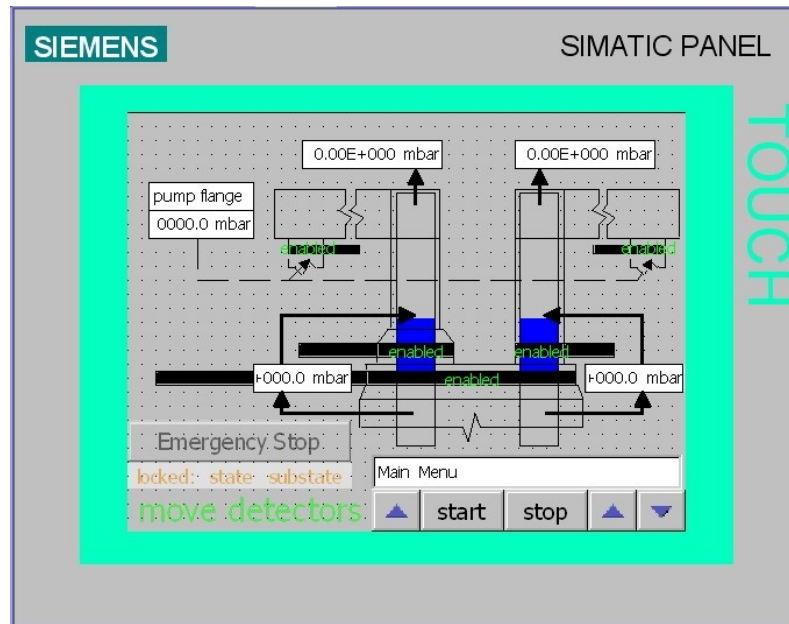

Fig 3.2 The shutter menu
There is also a 'start' button (5), a 'stop' button (6) and an 'arrow up' (7) button. To select a shutter use the arrow up/ down buttons (4) to find the shutter you want to enable. Then press the start button (5). The PLC then enables this shutter and you should now be able to see the 'shutter-enabled' light glowing in the front of the cabinet. The selected shutter will also be marked as 'enabled' on the PLC screen. Depending on which shutter menu you selected first, press the “open shutter” or “close shutter” button on the PLC cabinet to move the shutter. Like any other PLC operation, these are monitored by the state machine of the PLC since forbidden operations could cause serious damage to the lock. Only maintenance and administrator personnel have permission to move the cryo shutter. The shutter screen is shown in figure 3.2.